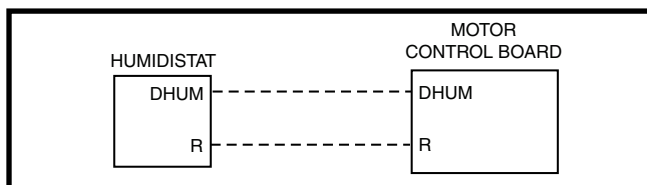

Figure 10. DHUM Wiring Configuration
- If the room thermostat incorporates a humidity sensor and **DHUM** output, connect the **DHUM** on the thermostat to the **D** terminal on the motor control board. See Figure 10.